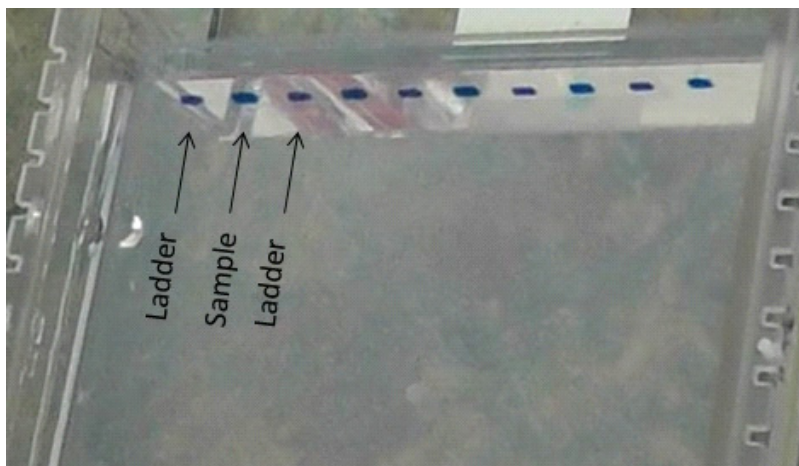

Figure 7 Ladders and Samples Loaded in Alternating Lanes
5. Load the ladder and samples in every other lane (alternating lanes - see Figure 7). Flanking the size ladder on both sides of the sample is highly recommended as it will help in performing gel cuts more precisely. It also mitigates unusual migration issues during electrophoresis.